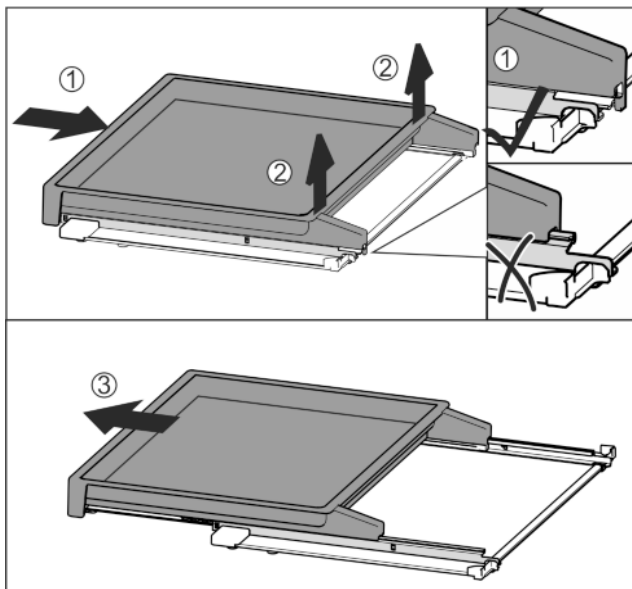

Fig. 38
- Slide the pull-out board all the way in Fig. 38 (1).
- Release the clips at the back Fig. 38 (2).
- Remove the pull-out board from the front Fig. 38 (3).